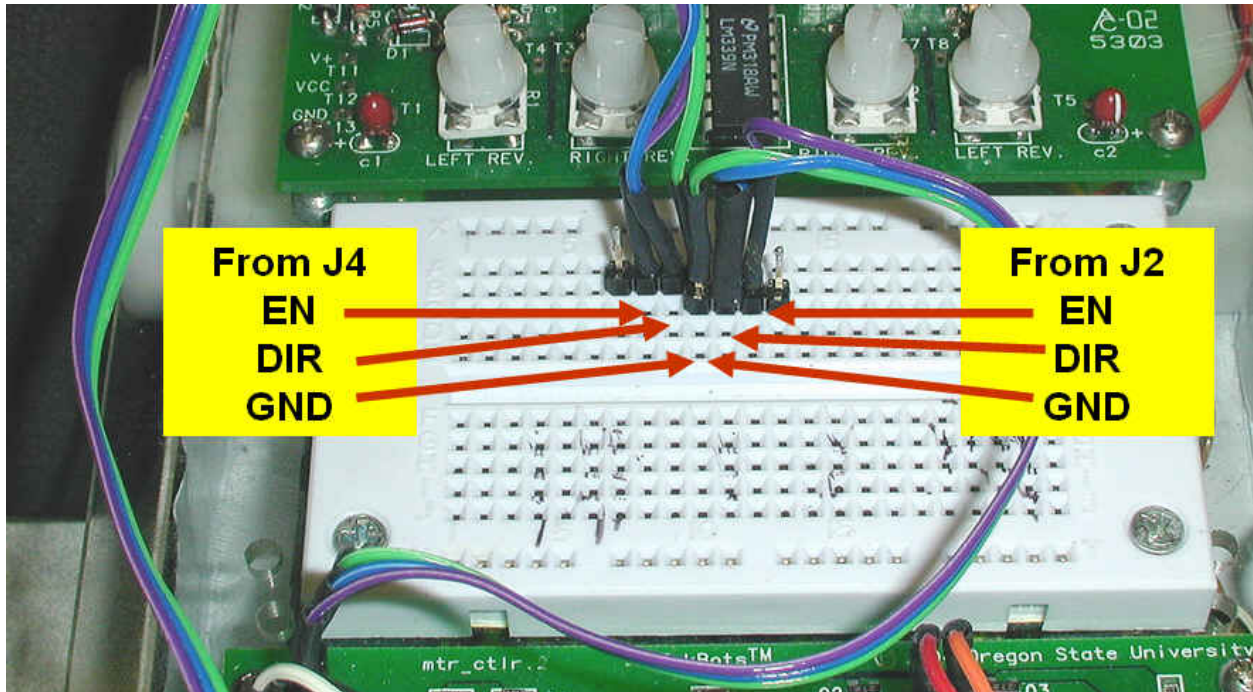

Figure 10. Wired Remote Control
- Place the cables from J4 and J2 from the Motor Control board on the prototype board as shown in Figure 10.